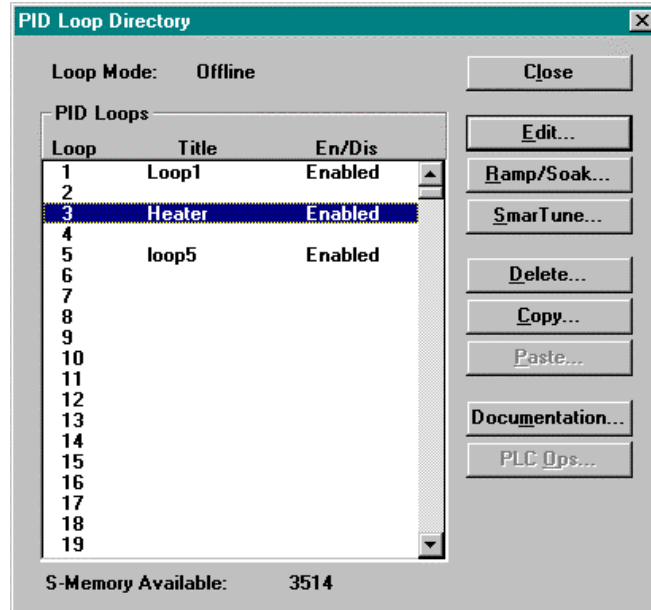

Figure 9.1a
1. To Document a PID Loop, Click on PID Loop... from the View menu or (Alt+V, P). The PID Loop Directory dialog box appears (Figure 9.1a). The dialog box shows the Loop Mode, Loop number (1-64), Loop Title, and Enable/Disable state.
2. The PID Loop Directory dialog box appears (Figure 9.1a).